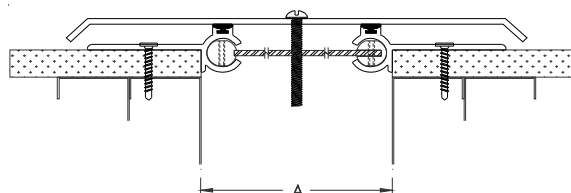

Figure 9
**STEP 14.** Attach the cover plate to the centering bars by tightening the centering bar bolts (see Figure 9). Tighten the centering bar bolts by hand. Do Not Overtighten the Centering Bar Bolts.